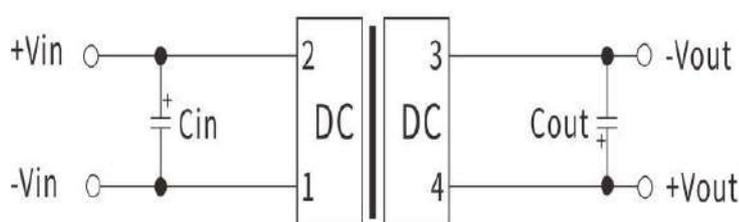

Figure 1
1. If it is required to further reduce the input and output ripple, a capacitor filtering network can be connected to the input and output ends, the applied circuit as showed on figure 1. However, it should be careful to select a suitable filter capacitor. If the capacitance is too large, it may cause start-up problems. For each output, under the conditions of ensuring safe and reliable operation
2. One recommended circuit: For applications where ripple and noise requirements are normal, a filter capacitor can be connected in parallel at the input and output ends. The external circuit is shown in the following figure1 with the recommended value details of the filter capacitor. Output load requirements: Try to avoid no-load use. When the actual power consumption of the load is less than 10% of the rated output power of the module or there is no-load phenomenon, it is recommended that a dummy load be connected to the output end. The dummy load (resistance) can be calculated by 5~10% of the rated power of the module, resistance value =  $U_{out} / (1W * 10\%)$ .